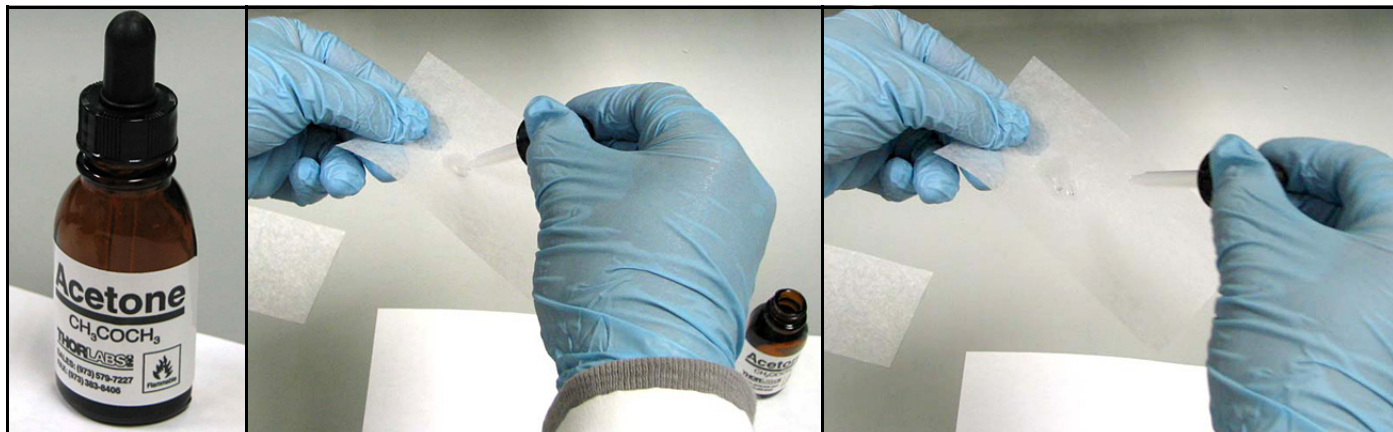

Figure 88: Using Analytical Grade Acetone
- Using a piece of lens tissue, wet a small area with a very small amount of **analytical grade acetone** (barely wet the lens tissue). Typically, one drop of acetone will suffice. Tilt the lens tissue so that the acetone drop is absorbed by the lens paper along the length of the piece (see *Figure 88* below).
6. Using a piece of lens tissue, wet a small area with a very small amount of analytical grade acetone (barely wetting the lens tissue). Typically, one drop of acetone will suffice. Tilt the lens tissue so that the acetone drop is absorbed by the lens paper along the length of the piece (see *Figure 88* on page 105 and *Figure 94* below).